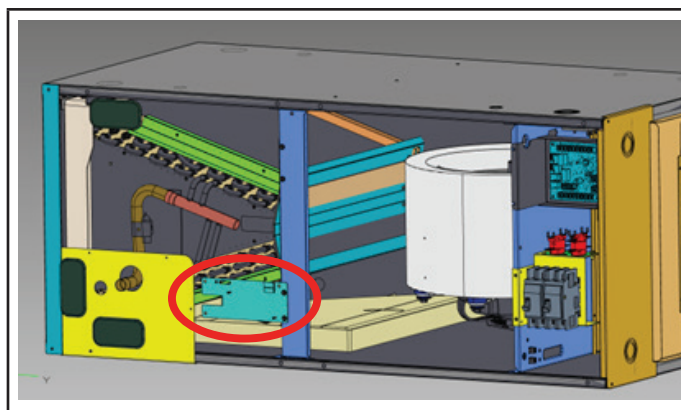

FIGURE 24
- 3 - With air handler unit panels removed, install sensor bracket assembly to the unit by lining up holes in the center support bracket as shown in FIGURE 24. Note: sensor should be facing toward the inside of the unit.